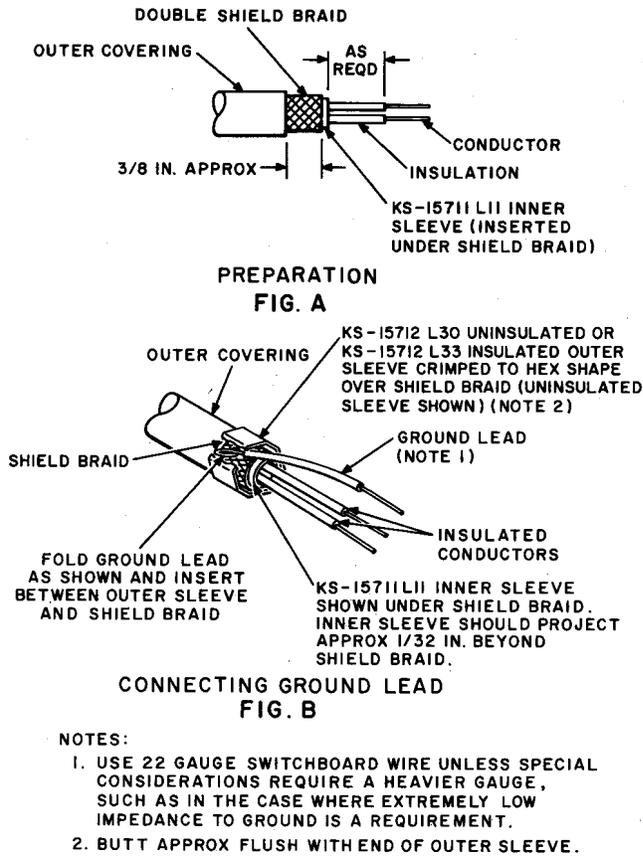

Fig. 23—Connecting Ground to Shield of 761A-Type Shielded Cable
**13.03** Connect ground lead to BF wire shield by the same method used for 761A cable (Fig. 23). Refer to Section 800-612-164 for shield connectors and installing tool.
**13.05** Prepare and connect ground lead to the shielded cable, as shown in Fig. 23. The ground lead and two conductors may then be terminated, as outlined in Part 14, for BF-type wire.